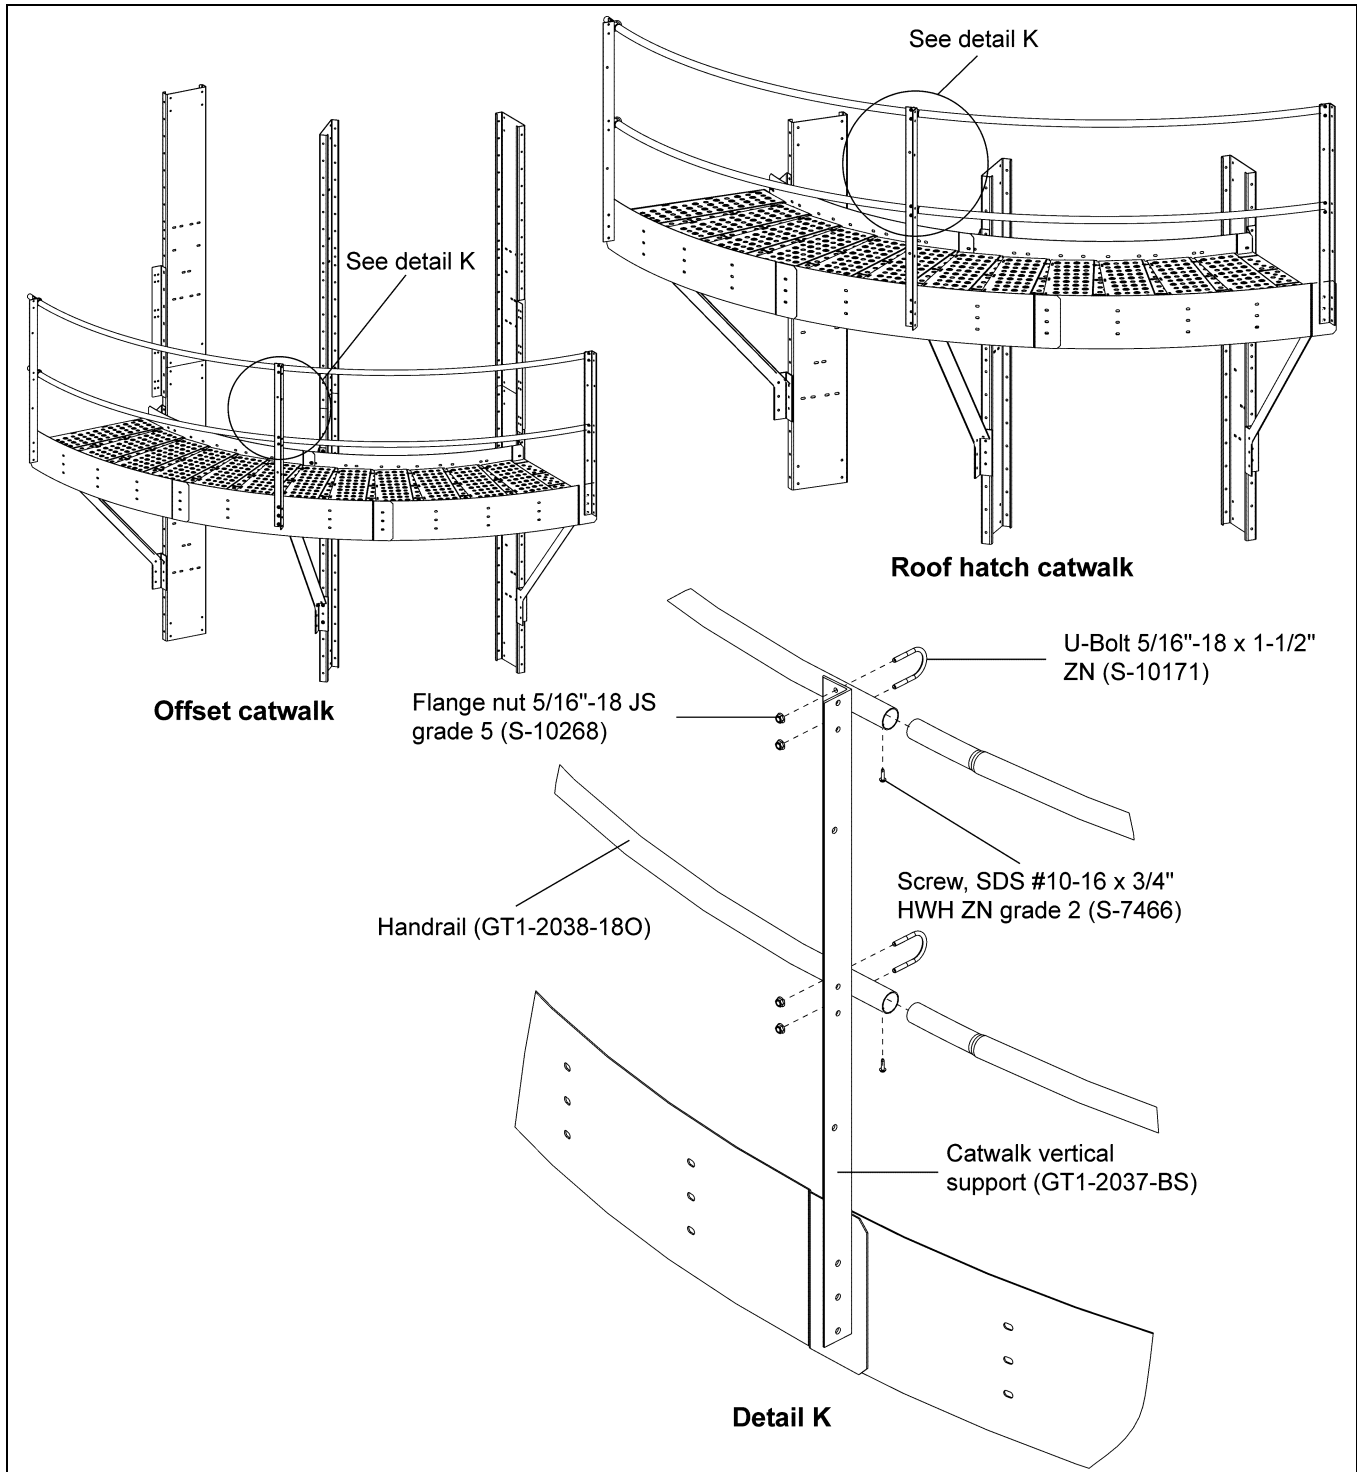

Figure 6U Handrail (GT1-2038-18O) Installation for Offset and Roof Hatch Catwalks
1. Install the long handrail (GT1-2038-18O) to the catwalk vertical support (GT1-2037-BS) using 5/16"-18 ZN U-bolts (S-10171) and 5/16"-18 JS grade 5 nuts (S-10268) to tighten the handrail with vertical post. *(See Figure 6U.)*
2. Use the self-tapping screw SDS #10-16 x 3/4" HWH ZN grade 2 (S-7466) at all handrail pipe joints. *(See Figure 6U.)*